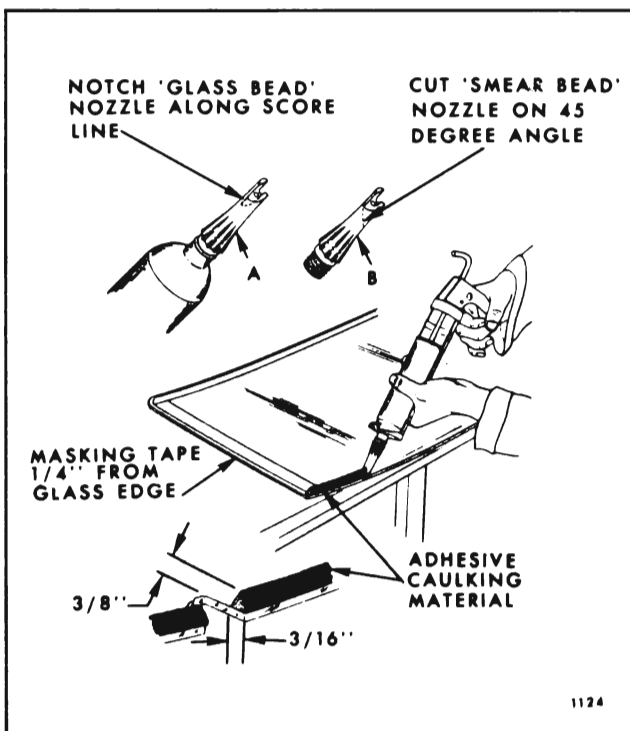

Fig. 4-26—Adhesive Caulking Installation - Extended Method
8. Apply one inch masking tape to inner surface of glass $\frac{1}{4}$ " inboard from outer edge up both sides and across top. Do not apply tape to bottom edge of glass. Instead, apply masking tape over painted feature strip below back window opening. (See Fig. 4-26.)
11. With caulking gun and nozzle positioned as illustrated in Figure 4-26 carefully apply a smooth continuous bead of caulking material $\frac{3}{8}$ " high by $\frac{3}{16}$ " wide at base completely around inside edge of glass.